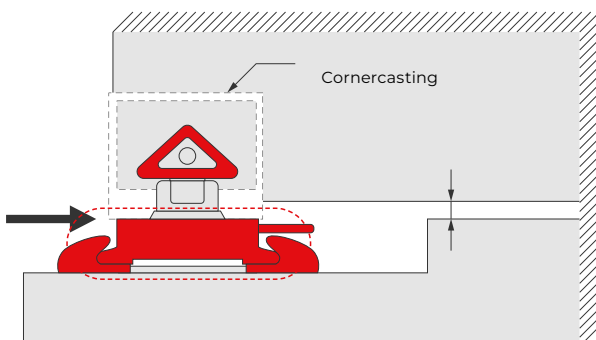

Figure 3 Bottom of corner casting is resting on body of bottom twistlock, top of hatch cover is to low.
- Figure 3: the recess is not deep enough and a standard twistlock is used